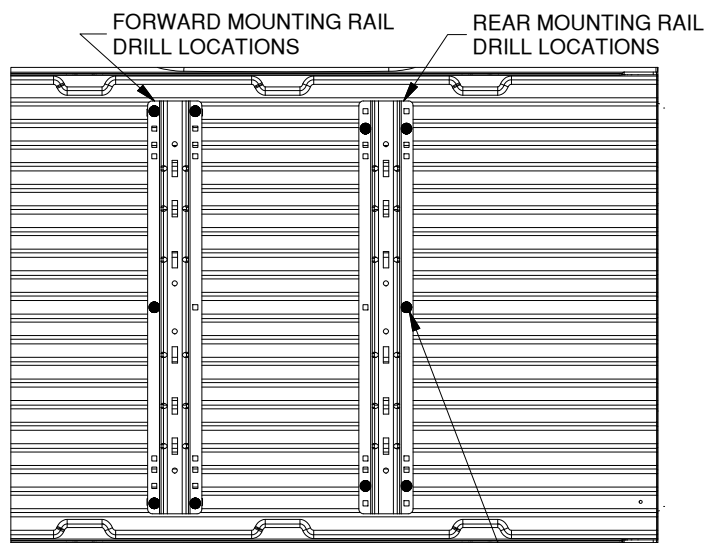

Figure B2: Detail view over bed, showing drill locations for the forward and rear bed rails.
2. **Mark hole locations.** While carefully ensuring the mounting rail does not move, use a center punch tool to mark the 5 drill locations on the rear rail. See Figure B2 for hole marking locations for this installation (forward rails will install on a later step). Once all 5 rear rail locations are clearly marked, move the bed rail out of the way and drill each location with an 1/8" drill.
- 4. Drill forward mounting holes.** Using the same methods as used for the rear mounting rail, mark, drill, check, and enlarge the holes for the forward mounting rail. Start at "DRILL REAR MOUNTING HOLES" section, Step 2, on a previous page. Notice that the hole locations are slightly different than the rear rail, see Figure B2 (on the second page).